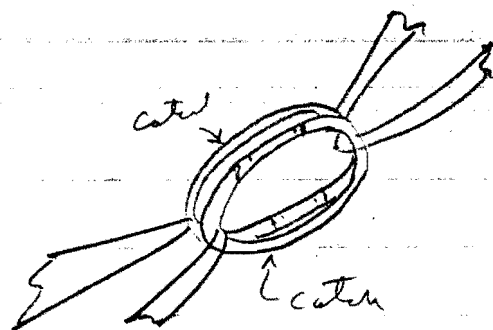

Figure 2.5. Opposed gates.
d) Application. For the most part, the uses of carabiners are fairly obvious, but there are several dangers that must be avoided. The low open gate strength has already been mentioned. A locker kiner should be used whenever there is significant danger of a gate opening accidentally, but if a locker is not available, two regular carabiners with gates apposed make a good substitute (see figure 2.5). For true opposition,